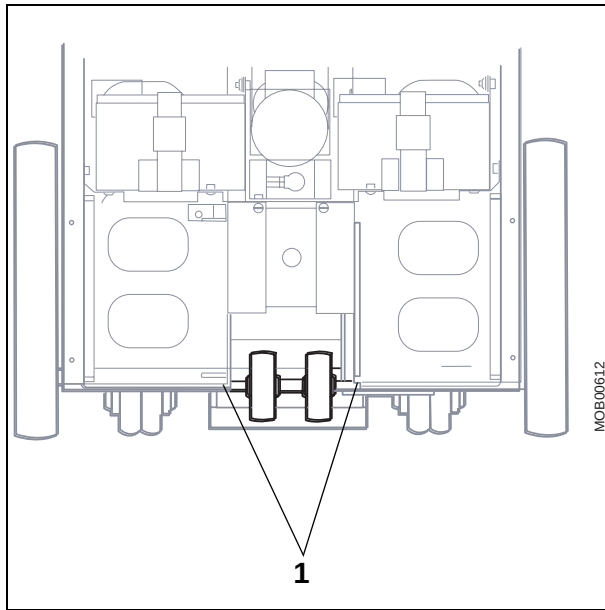

Fig. 26
- Remove the locking rings (pos. 1 / Fig. 26).